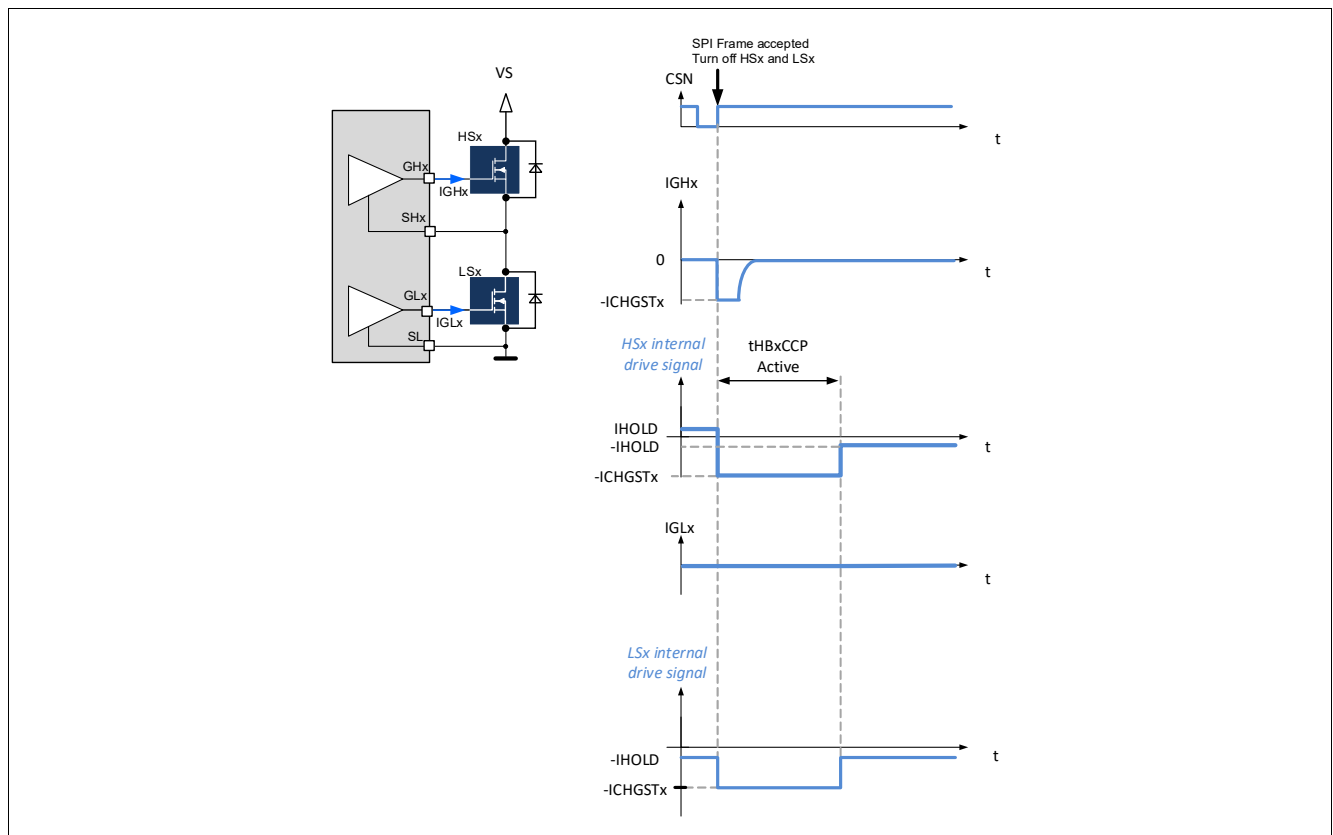

Figure 25 Turn-off of the high-side and low-side MOSFETs of a half-bridge
- The gate of HSx and LSx are discharged with the current $-\text{ICHGSTx}$ for the duration $t_{\text{HBxCCP ACTIVE}}$ (Figure 25).